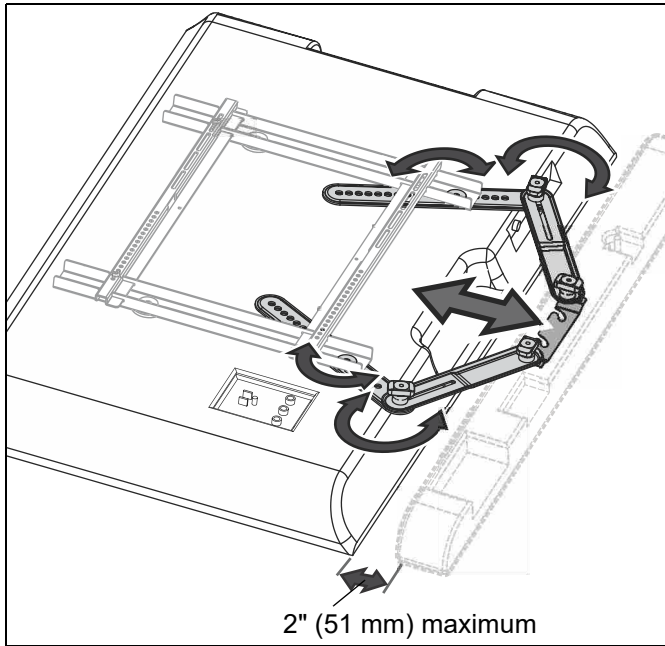

Figure 9
1. Adjust both arms of soundbar brackets (A) until soundbar is in desired position. (See Figure 9)
**NOTE:** Repositioning the hole locations in the soundbar brackets (A) may be necessary to reach desired position.